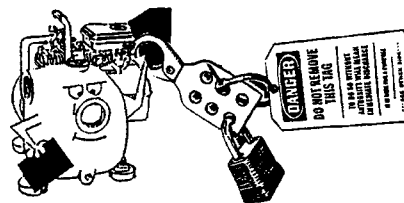

FIG. 11
• **If an unsafe condition cannot be remedied immediately, notify your supervisor and tagout/lockout** the pump on the start switch and/or appropriate, prominent location. (FIG. 11)
**BEFORE ANY** maintenance work is to be done, a LOCKOUT/TAGOUT standard device and procedure should be implemented. Prior to removal of LOCKOUT/TAGOUT, the equipment must be fully operational and all personnel accounted for. Except in cases of emergency, the removal of the LOCKOUT/TAGOUT should be done **ONLY** by the initiating person prior to the return to start-up (see page 12, Fig. 11).
**NEVER** perform any work on the equipment unless authorized to do so. (FIG. 11) Before performing any maintenance or repair work, consult the manufacturer's instruction manual for recommended procedures.